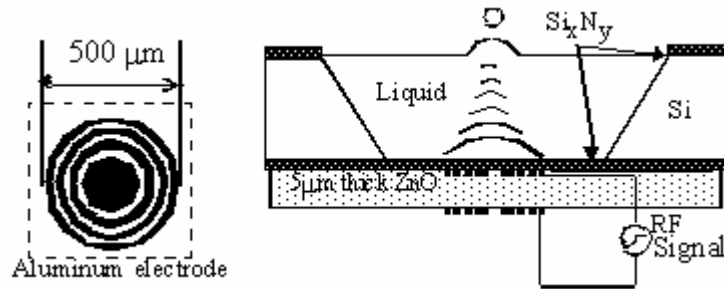

Figure 2. Cross-sectional view of the liquid ejector microfabricated on a silicon wafer.
- (10 points). Figure 2 show the SFAT. The SFAT can be used as a liquid ejector and it is fabricated by silicon micromachining. Show the process steps to accomplish this device by cross sectional fabrication steps